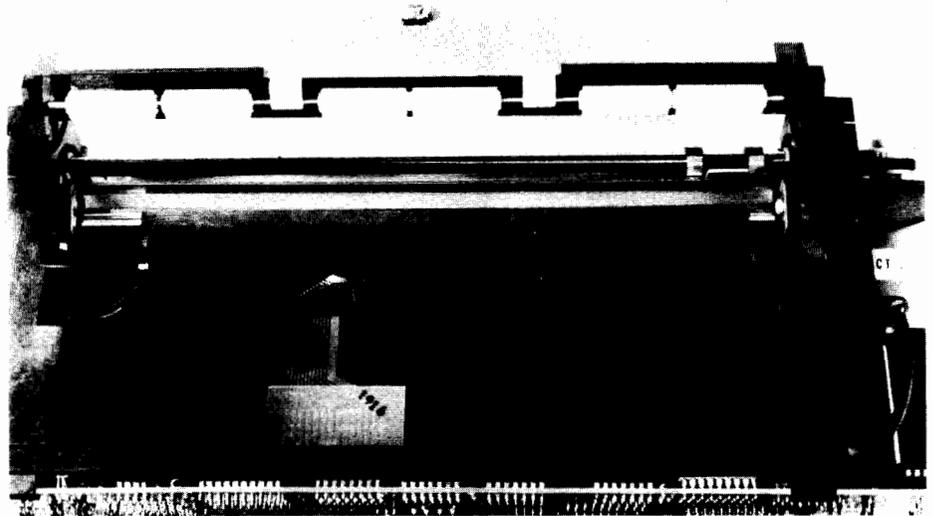

Figure 7-13E. Print Head Assembly in Place
8. Make similar fold in flex cable as in defective flex cable and route along TPM trough. (See figure 7-13E.)